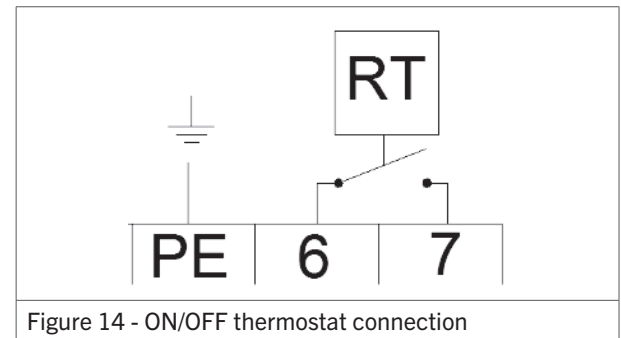

Figure 14 - ON/OFF thermostat connection
- Connect the two thermostat wires to terminal 6 and 7 (see figure 14 or the electrical wiring diagram in §11). This is a 24 V connection for the thermostat signal.